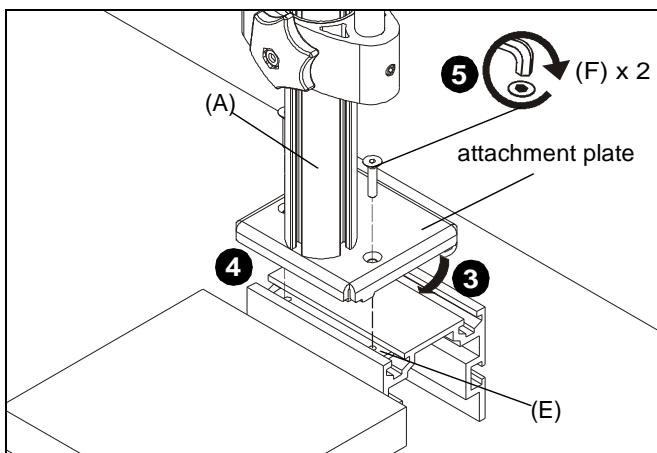

Figure 2
3. Hook back of attachment plate on dual pole mount assembly (A) into back groove of FrameOne™ rail. (See Figure 2)
4. Place dual pole mount assembly onto FrameOne™ rail making sure holes on attachment plate line up with holes on channel plate (E). (See Figure 2)
5. Use two #10-32 x 7/8" flat head cap screws (F) to secure dual pole mount assembly (A) to channel plate (E). (See Figure 2)